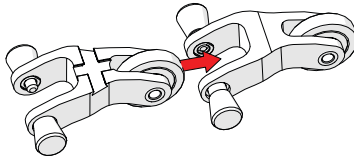

Fig. 52 - Align mounting holes
2. Align the pins with the mounting holes of the component to be connected (Fig. 52).